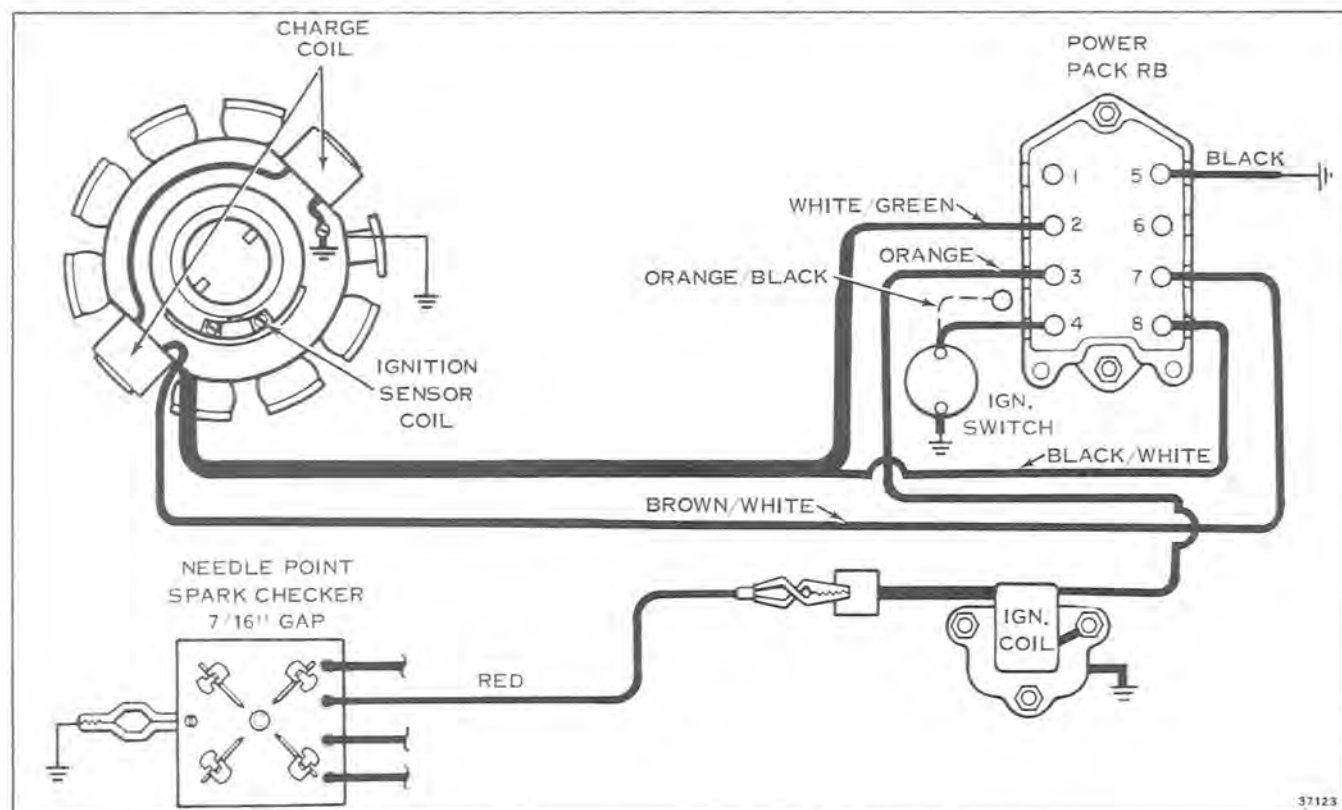

Figure 7-11
- B. If weak, erratic, or no spark, disconnect ignition switch lead on Power Pack terminal #4. See Figure 7-11. Repeat test, cranking engine with rope.